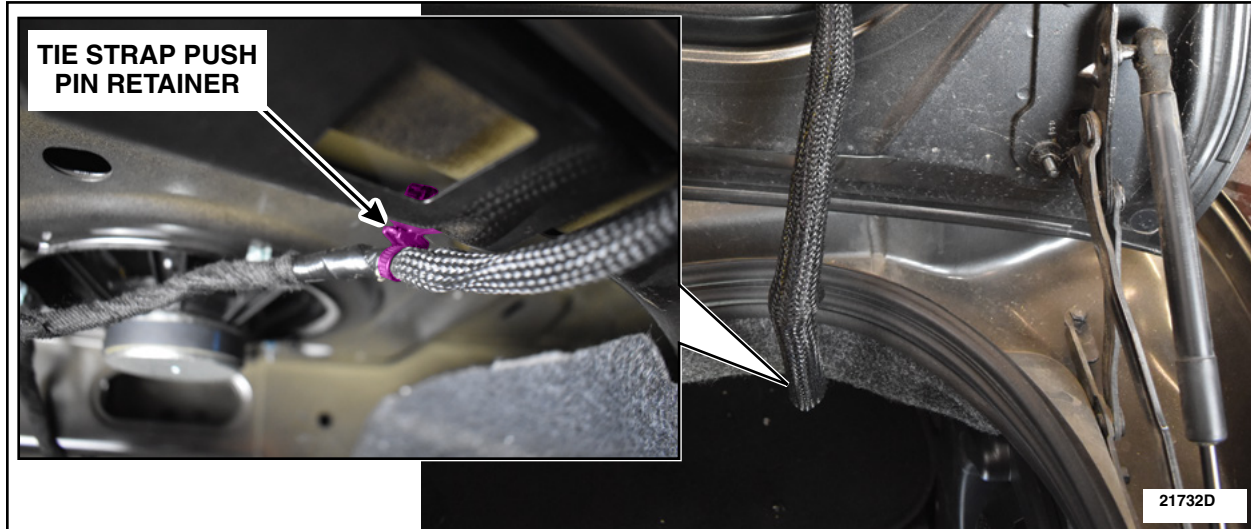

FIGURE 5
9. Disconnect the lower tie strap push pin retainer located inside the luggage compartment. See Figure 5.